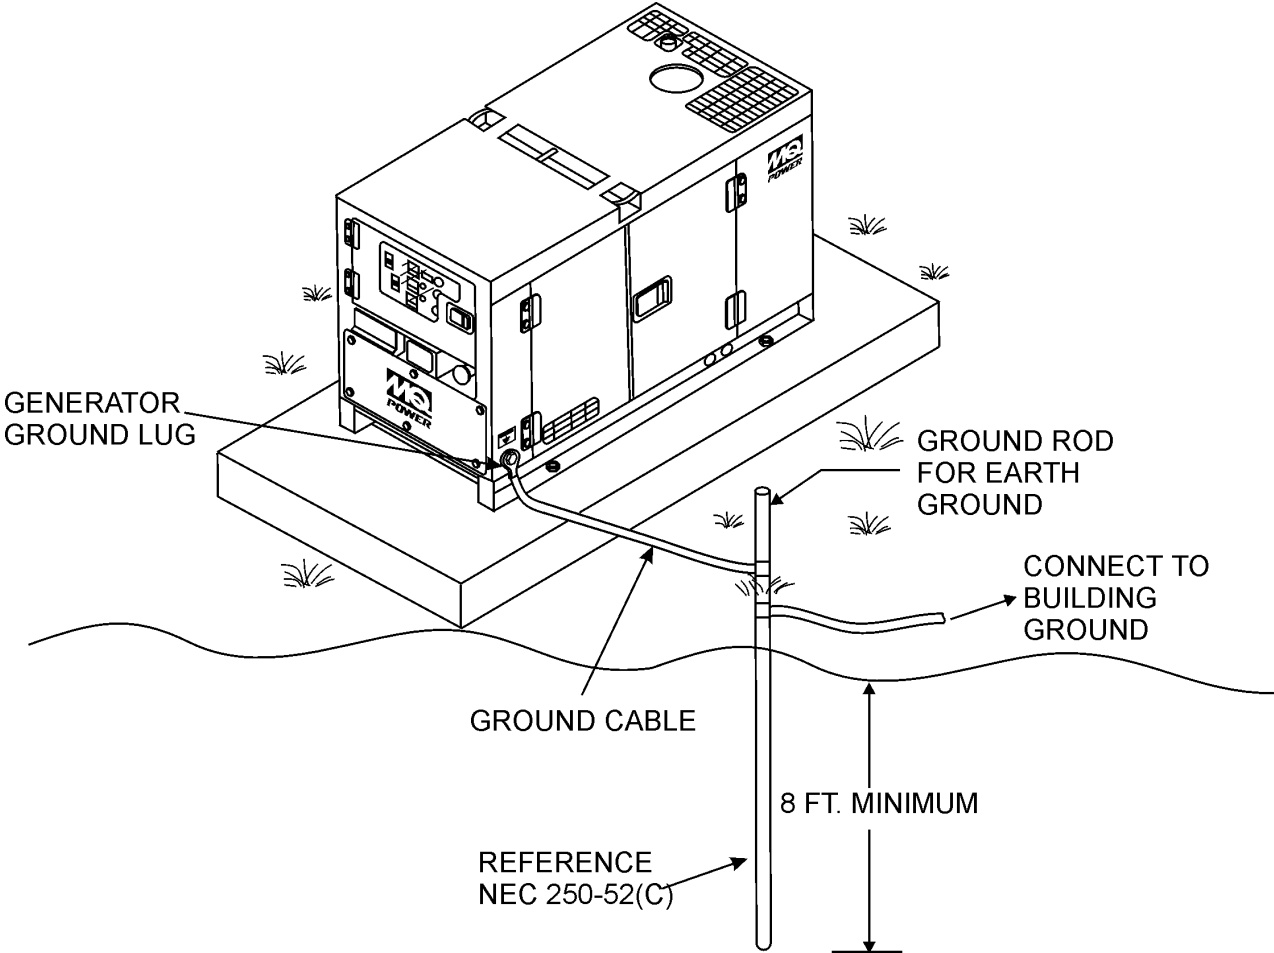

Figure 39. Typical Generator Grounding Application
2. When grounding the generator (Figure 39) connect the ground cable between the lock washer and the nut on the generator and tighten the nut fully. Connect the other end of the ground cable to earth ground.